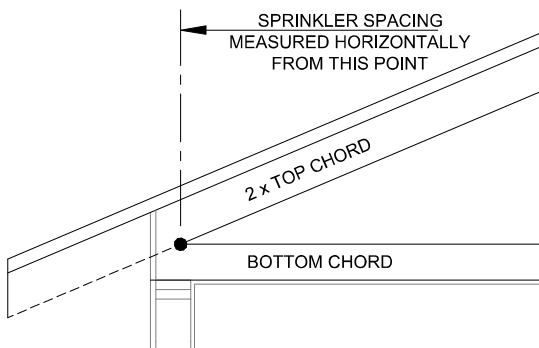

FIGURE 4A
- When utilizing this option, Model FL-SA/DS sprinklers are used to protect the entire width of the attic space from the eave to the vertical barrier of the single slope. The span of the attic is measured along the floor (or ceiling of floor below) of the attic space from the peak/vertical barrier to the intersection of the top chord and bottom chord of the roof trusses. See Figure 4a and Figure 4b.
- When utilizing this option, Model FL-SA/DS sprinklers are used to protect the entire width of the attic space from the eave to the vertical barrier of the single slope. The span of the attic is measured along the floor (or ceiling of floor below) of the attic space from the peak to the intersection of the top chord and bottom chord of the roof trusses. See Figure 4a and Figure 4b.